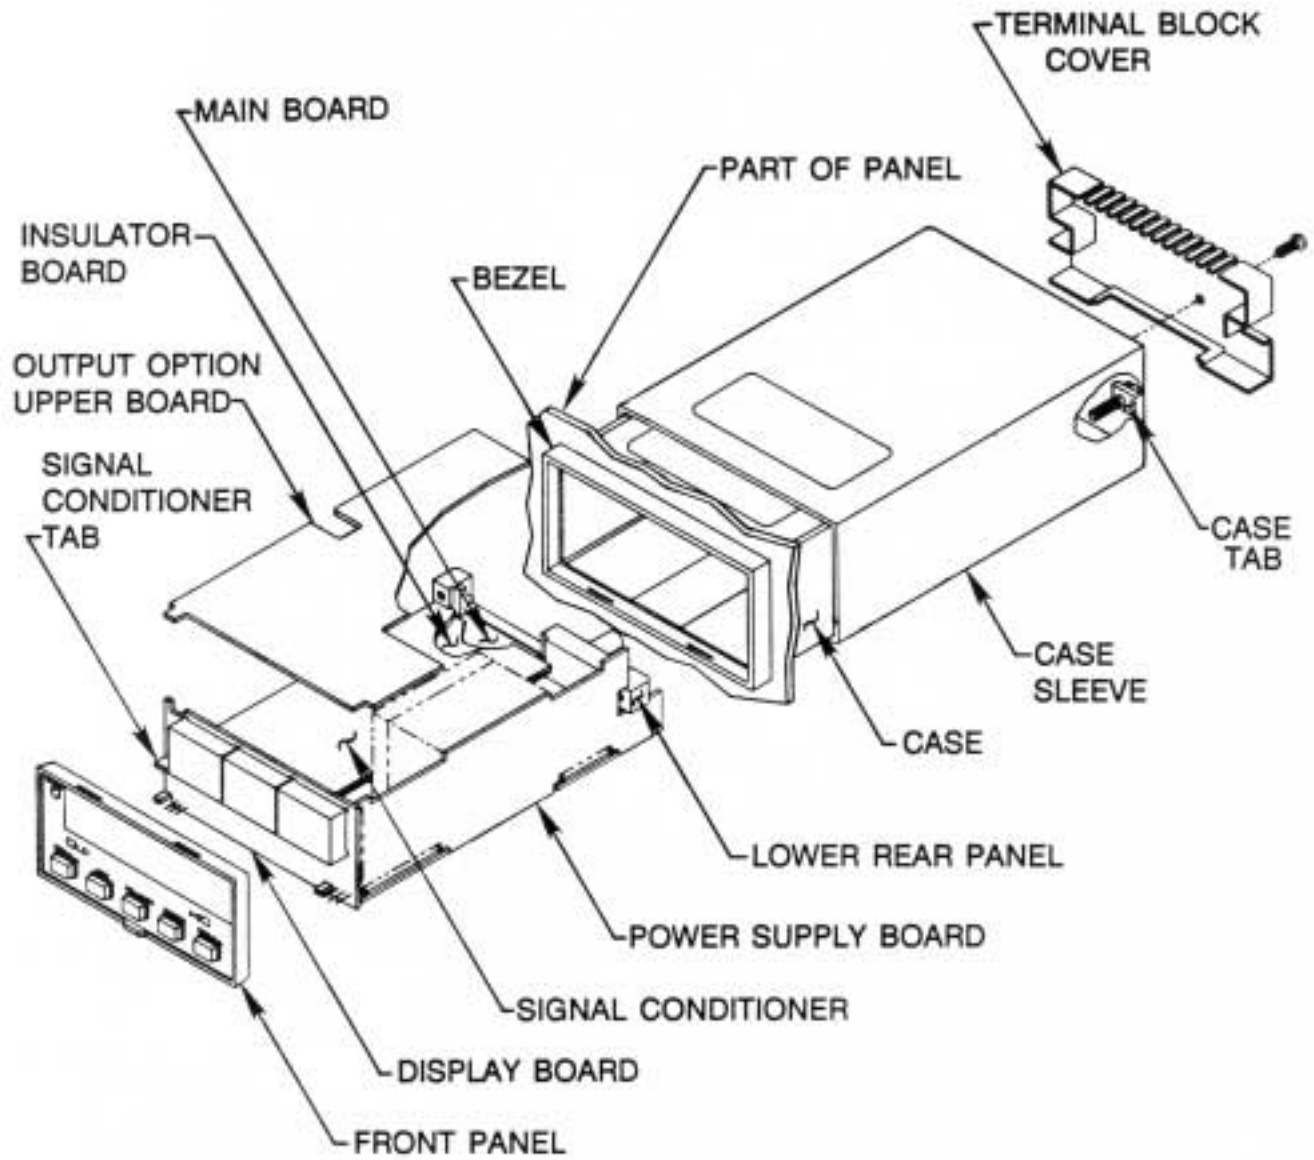

Figure 2-1 Exploded View - "Classic" Style
2. Slide the sleeve off the case (see Figure 2-1 Exploded View).